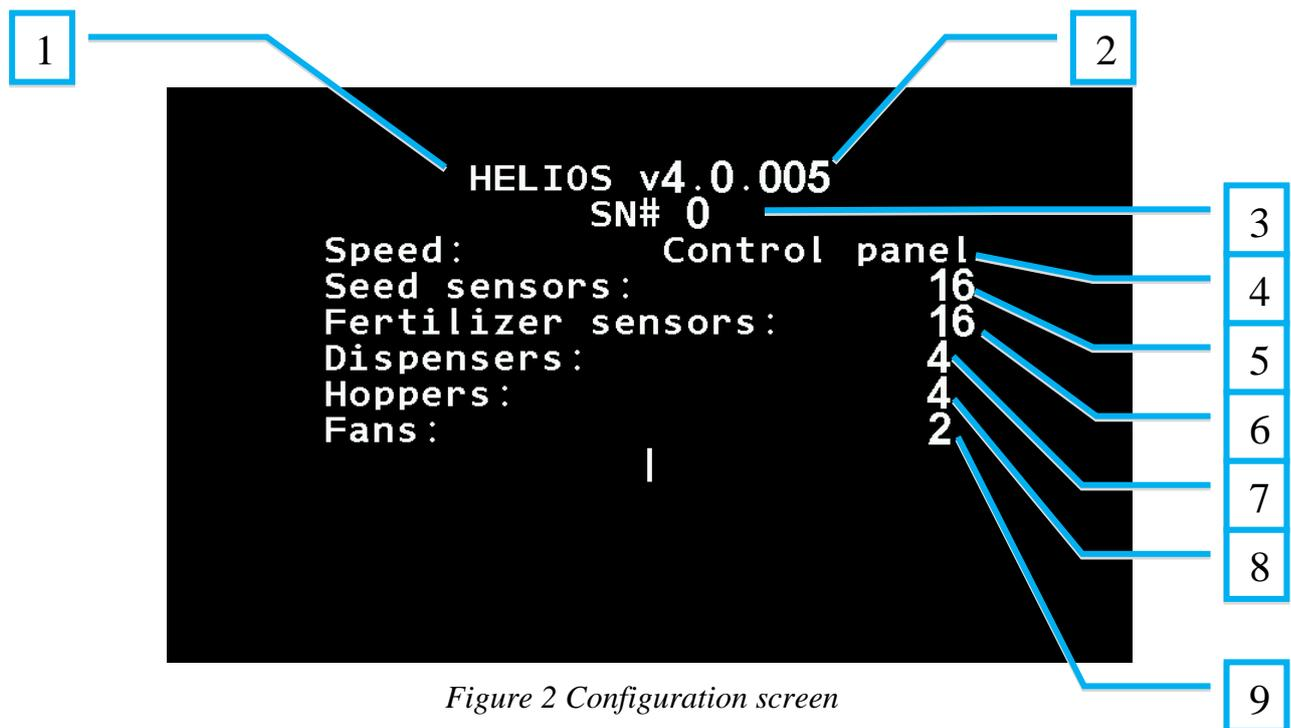

Figure 2 Configuration screen
- Configuration screen, see Figure 2.
After turning on the seeding monitoring system, the configuration screen is shown on the control panel for a few seconds (see Figure 2). It shows the amount and type of sensors included into the system.